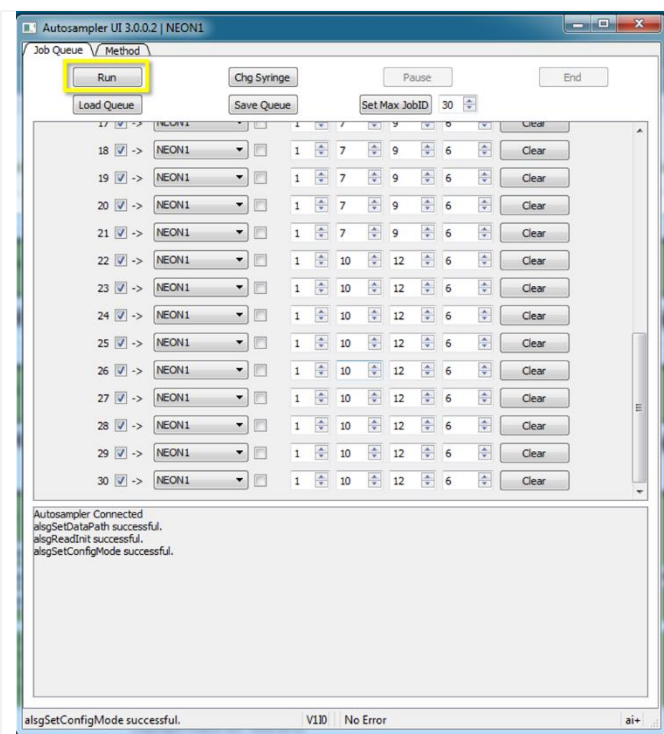

Figure 168. Select Run.
STEP 8 | Click **Run** to initiate the validation process using the 12 vial tray (Figure 168).